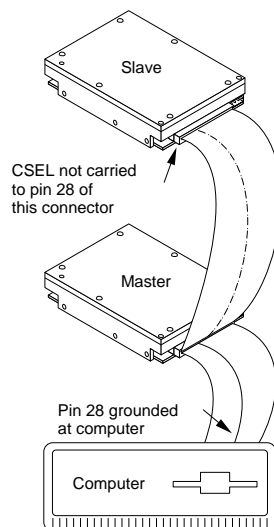

Figure 5. Connecting cable-selected drives
- Connect the drive to the bus as shown in Figure 5.